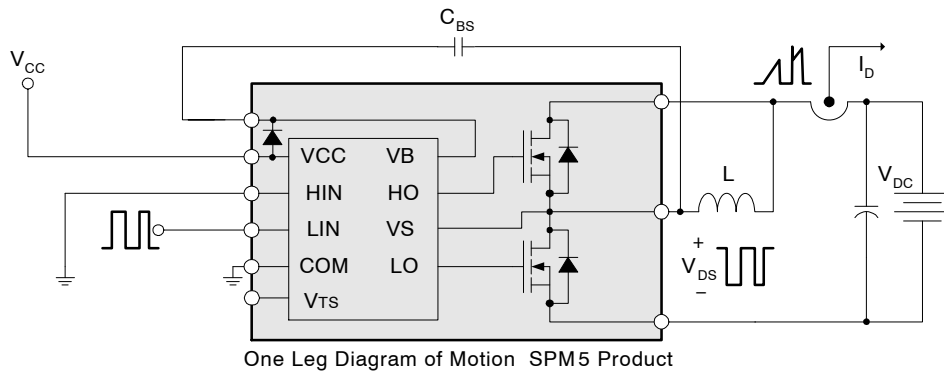

Figure 7. Switching and RBSOA (Single-pulse) Test Circuit (Low-side)
5.  $t_{ON}$  and  $t_{OFF}$  include the propagation delay of the internal drive IC. Listed values are measured at the laboratory test condition, and they can be different according to the field applications due to the effect of different printed circuit boards and wirings. Please see Figure 6 for the switching time definition with the switching test circuit of Figure 7.
6. The peak current and voltage of each MOSFET during the switching operation should be included in the Safe Operating Area (SOA). Please see Figure 7 for the RBSOA test circuit that is same as the switching test circuit.